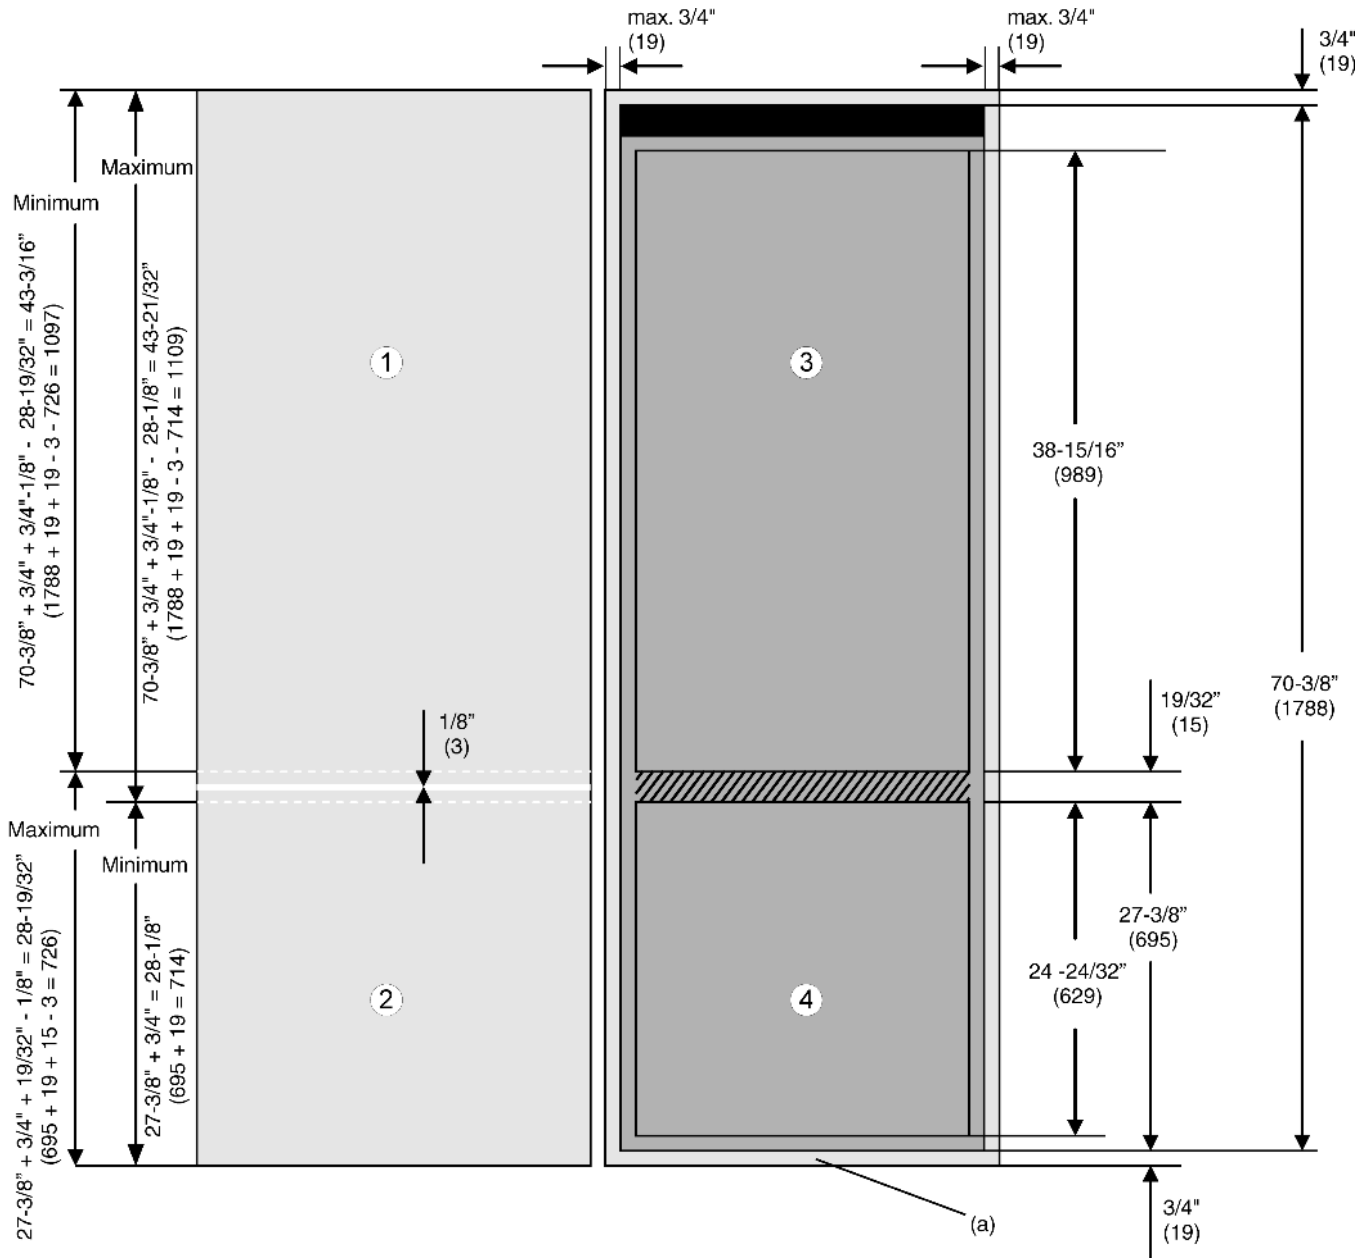

Fig. 3
► In order to cover the front of the floor plate Fig. 3 (a): extend the plate height to 27-3/8 in. + 3/4 in. = 28-1/8 in. (695 mm + 19 mm = 714 mm).
If no cabinet doors have yet been fitted the gap between the freezer section door Fig. 3 (4) and the fridge section door Fig. 3 (3) is 19/32 in. (15 mm) After the cabinet doors have been fitted the gap between the two doors Fig. 3 (1,2) is about 1/8 in. (3 mm) and must be inside the hatched area.